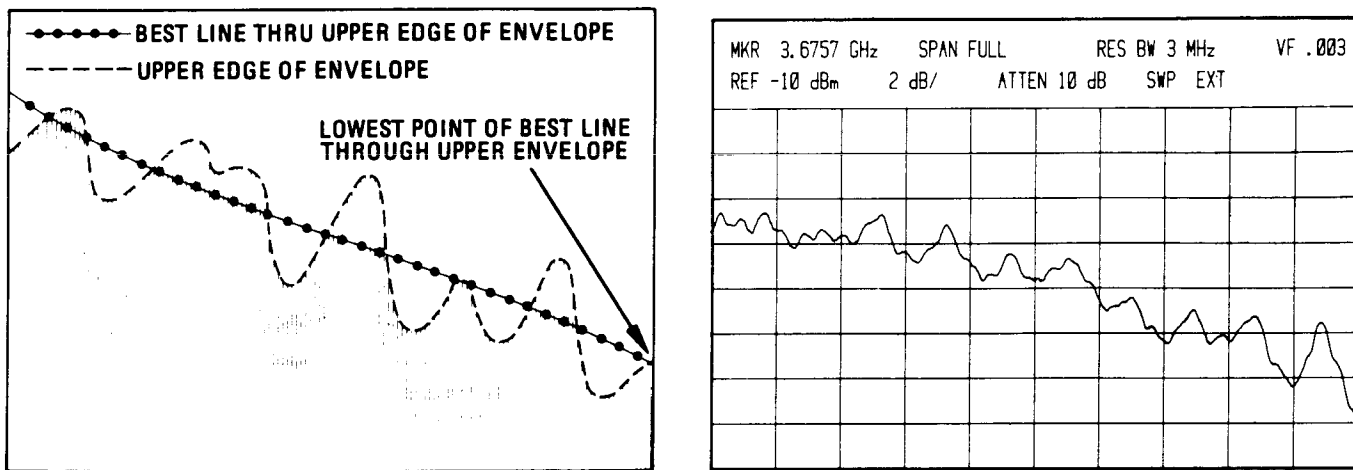

Figure 5-54. Best Line Relative to 1 kHz Modulation Envelope
The 'best line,' as used in the following procedures, approximates the median line between the peaks and troughs of the upper edge of the 1 kHz modulation envelope. The best line is illustrated in Figure 5-54.
8. Note best line as illustrated in Figure 5-54. Adjust REFERENCE LEVEL controls to set lowest point of that line on center horizontal graticule line. This point is used as a reference in checking for approximately same power level in frequency bands 5.8–12.9 GHz, 8.5–18 GHz, and 10.5–22 GHz (steps 9 through 14).
15. With equipment connected as shown in Figure 5-54, set A28S1 NORM-OFF-TEST switch to NORM. Set spectrum analyzer FREQUENCY BAND GHz to 3.8–8.5, INPUT ATTEN to 10 dB, REF LEVEL dBm to -10, and REFERENCE LEVEL FINE to 0. Set synchronizer ERROR SIGNAL switch to -. Set sweep oscillator to sweep from 3.8 GHz to 8.5 GHz. Set TRACE A and TRACE B to STORE BLANK.
28. With equipment connected as shown in Figure 5-54, set spectrum analyzer FREQUENCY BAND GHz to 1.7–4.1 GHz and set SWEEP SOURCE to EXT. Set synchronizer ERROR SIGNAL switch to -. Set sweep oscillator to CW and adjust CW control to approximately 2.9 GHz. Set ΔF X10 to 2.4 GHz. Phase lock sweep oscillator and set output power level as follows: